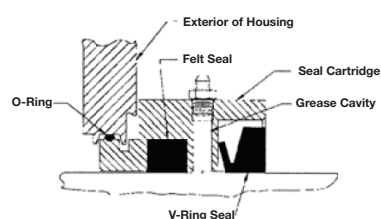

Figure 9
3. Slide one of the V-ring seals onto the shaft making sure lip is toward the housing. Install seal cartridge onto the shaft with relation to housing (Figure 9).
5. Install second seal cartridge onto shaft with relation to housing (Figure 9).